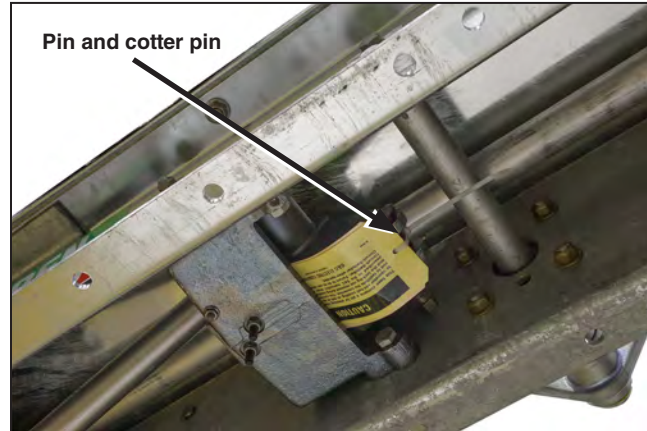
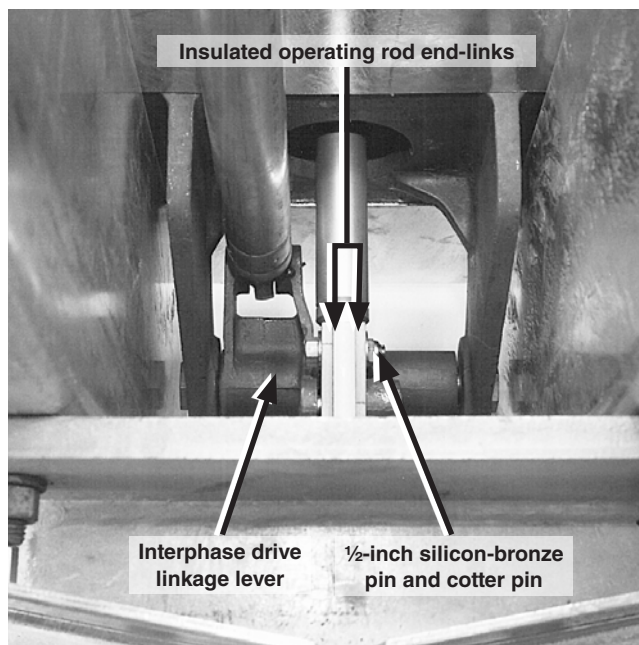

Figure 8. Remove the $\frac{3}{4}$ -inch stainless-steel pin and cotter pin from the interphase drive lever inside the high-speed base.
Figure 14. Attaching the insulated operating rod to the interphase drive.
Also remove the $\frac{3}{4}$ -inch stainless steel pin and cotter pin from the interphase drive shaft lever enclosed in the high-speed base. See Figure 8 and Figure 14 on page 21. Retain these pins for reuse in Step 1 on page 22.
Carefully turn the transition lever to the **Open** position. If the transition lever cannot be freely rotated to its fully **Counterclockwise** position, misalignment of the interphase drive is occurring in the high-speed base. Swing the insulated operating rod end links up, away from the interphase drive linkage lever, and again try rotating the transition lever to its fully **Counterclockwise** position. See Figure 14.
- (d) Attach the insulated operating rod end-links to the interphase drive linkage lever in the high-speed base using the $\frac{1}{2}$ -inch silicon-bronze pin and cotter pin retained from Step 2(b) on page 18. See Figure 14. The insulated operating rod may be moved up or down, as required, to make the connection.
- Each insulated operating rod has been connected to the interphase drive. See Figure 14 on page 21.